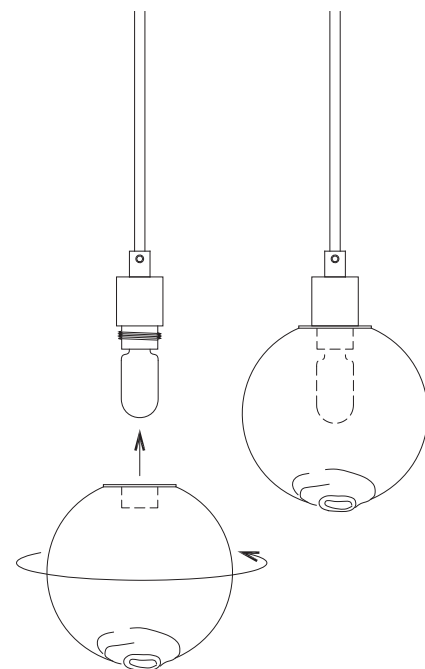

Figure 6. Install glass shades by threading onto brass sockets
- 10 Unwrap the protective packaging from each of the 18 individual pendants. Install a light bulb in each socket. Unwrap and lay out the 18 individual glass spheres. Carefully thread a glass sphere onto each socket (Figure 6). Thread the glass spheres on just until they are visually tight - do not overtighten or the sockets can bind and the brass assembly on the glass sphere can loosen.